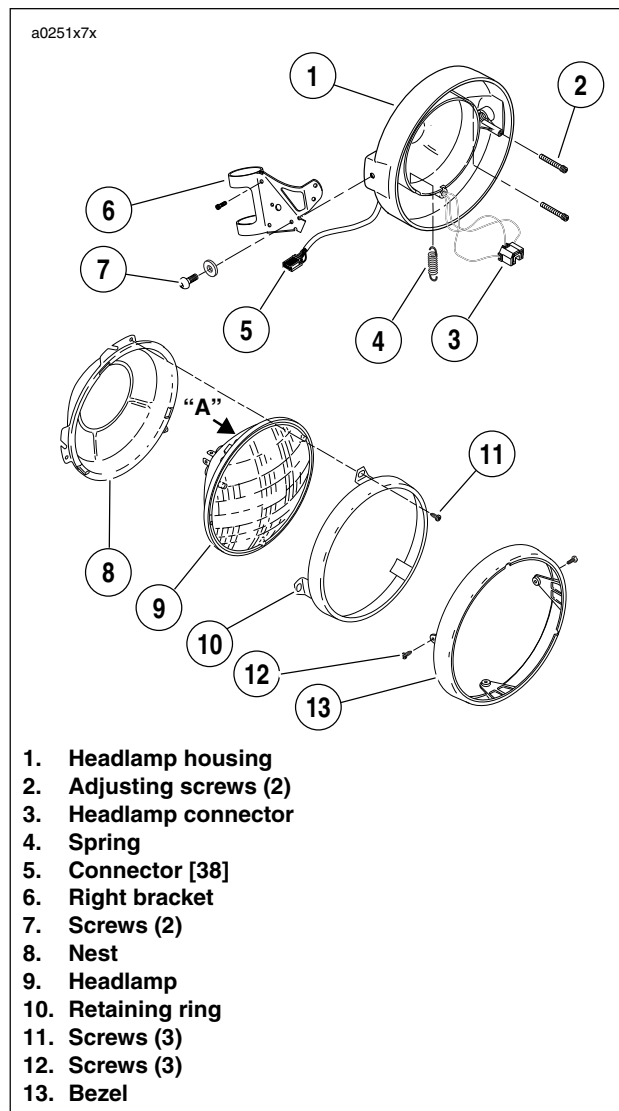

Figure 7-63. Headlamp Assembly
2. See Figure 7-63. Remove three phillips head screws and bezel from nest.
1. See Figure 7-63. Remove two screws and washers and partially remove headlamp housing from vehicle.
2. See Figure 7-63. Attach connector [38] to wiring harness.
- b. See Figure 7-63. Install bracket with two allen screws and tighten to 12-14 ft lbs (16.3-19.0).
1. See Figure 7-63. Connect headlamp connector to rear of headlamp.